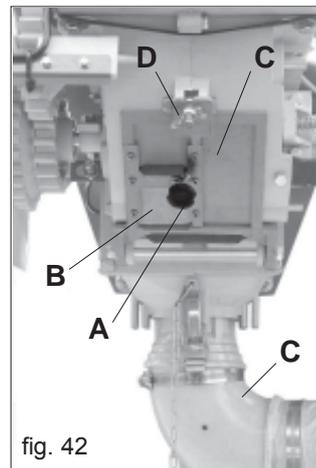
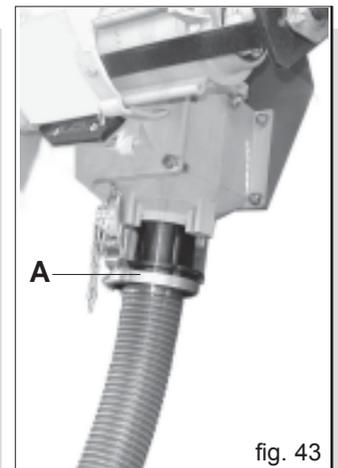

fig. 42
fig. 43
- put a bag or a container under the discharge hatch of the dosing apparatus, and then unscrew the knob (A Fig. 42) to discharge the hopper contents through the hatch (B). Lastly, open the discharge hatch (C Fig. 42) by unscrewing the wing nut (D Fig. 42) to empty the remaining contents of just the doser;
- Remove the bend under the injecting tube (C Fig. 42), and then attach the collecting tube supplied with the machine (A Fig. 43) in the same position and place a collecting container at the other end of the tube; turn the transmission wheel in the direction of travel using the handle.